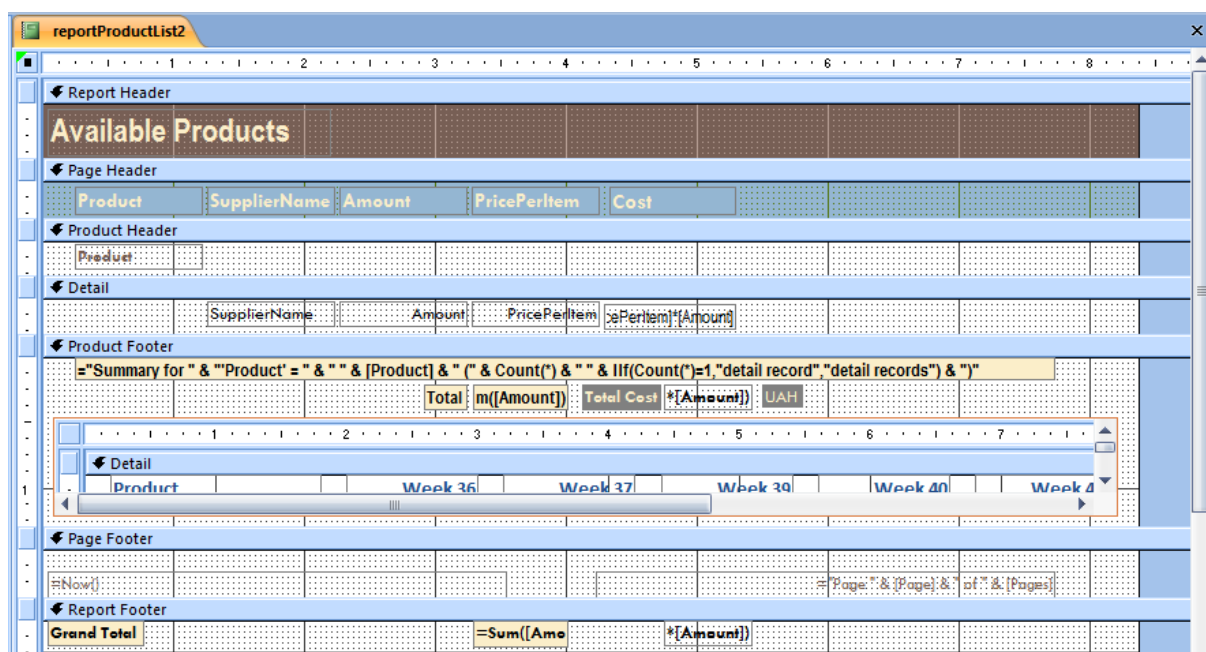

Figure 5.9
2) Drag the report “**repWeeklyProductSupplies**” into the “Product Footer” section and place it as it is shown in figure 5.9;